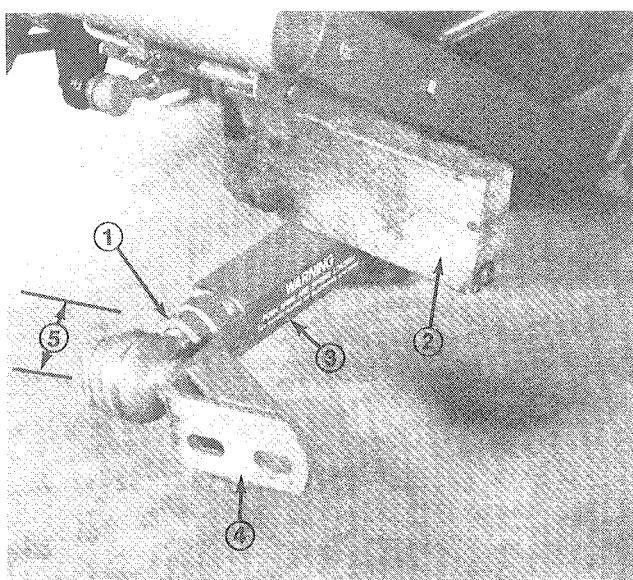

Figure 13
4. Have a helper push down on the left push arm. Then insert a 2 x 4 in. (51 x 102 mm) block of wood between the frame and top of the push arm (Fig. 12). Screw ball joint into left hand push arm until center of ball joint is 2-3/8 inches (60 mm) away from front of push arm (Fig.13). Do not tighten jam nut.